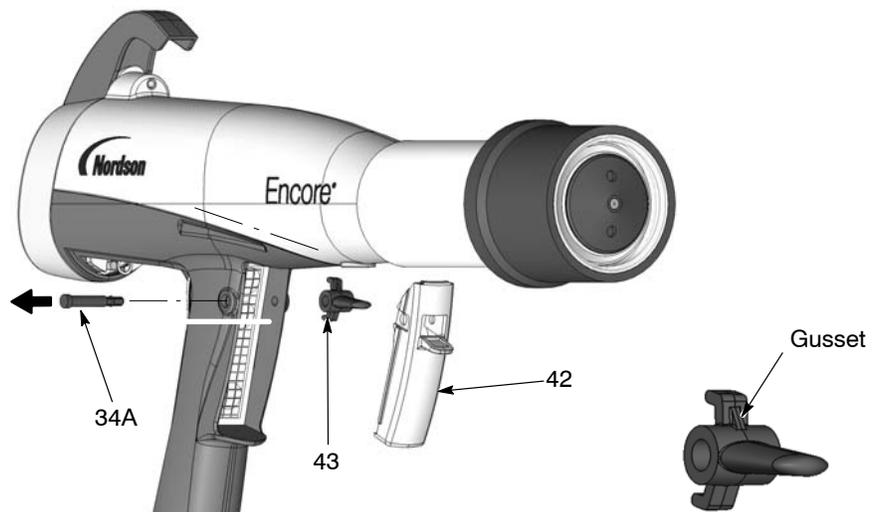

Figure 6-7 Removing the Axle and Triggers from the Handle
3. See Figure 6-7. Push the small diameter end of the axle (34A) out of the handle with a small, flat-ended punch or other tool.
4. Remove the spray trigger (42), actuator (41, not shown), and purge trigger (43) from the handle.
7. See Figure 6-7. Install the purge trigger (43) into the spray trigger (42) with the gusset oriented upward as shown. **Do not install the purge trigger upside down.**